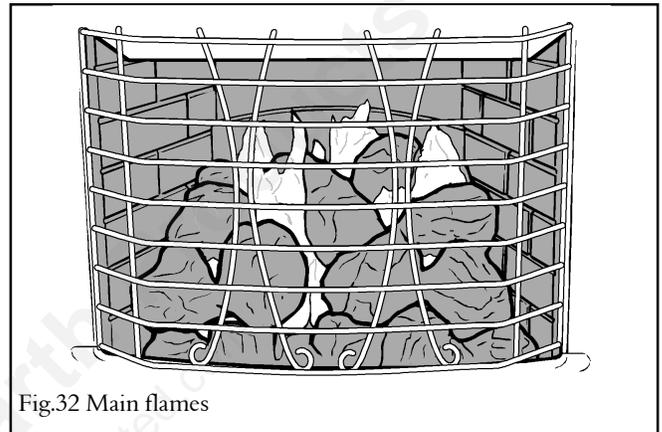
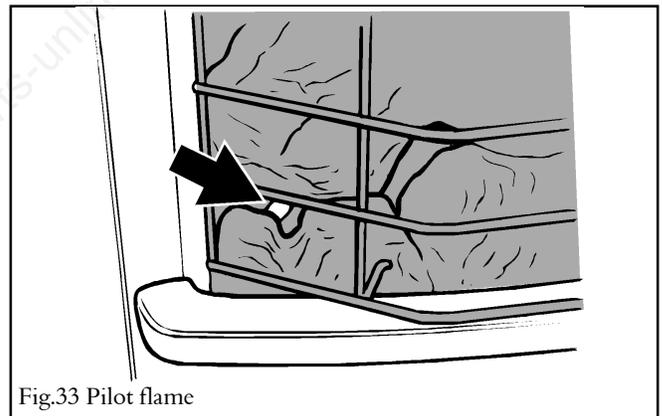

Fig.32 Main flames
Fig.33 Pilot flame
16.4.1 A periodic visual check of the pilot and burner flames should be made. Compare the burner flames to those illustrated in figure 32. The pilot flame should be visible between the coals near the front left corner as illustrated in figure 33.